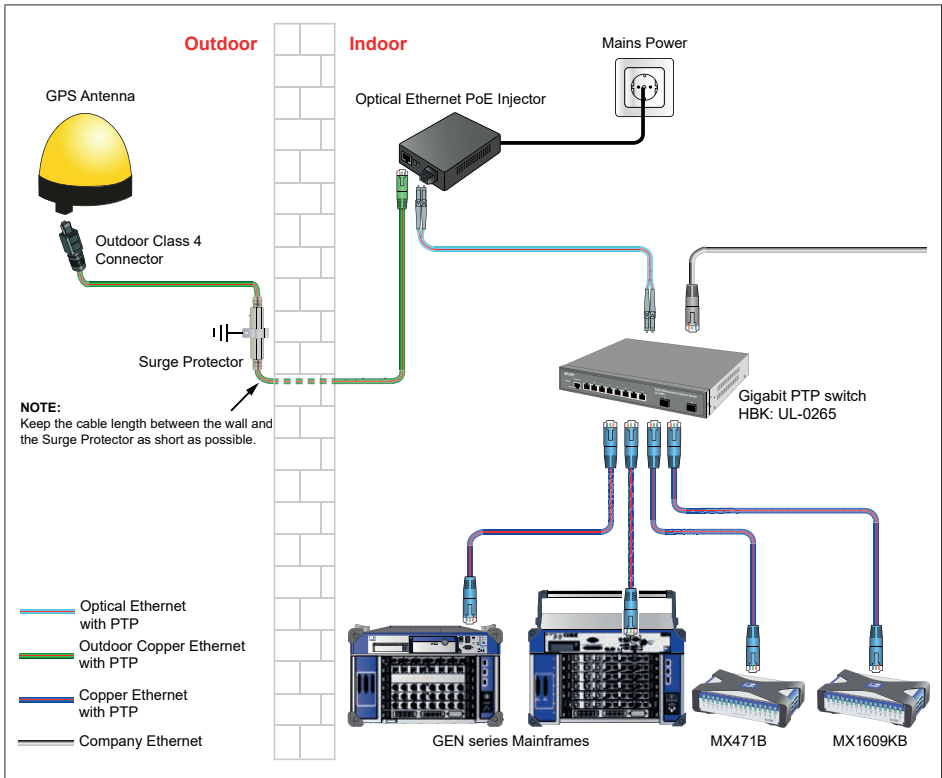

Fig. 14.30 GPS setup for tethered mainframes and QuantumX
7. After finishing these steps the G002B option is fully installed and operational (see also Fig. 14.30).